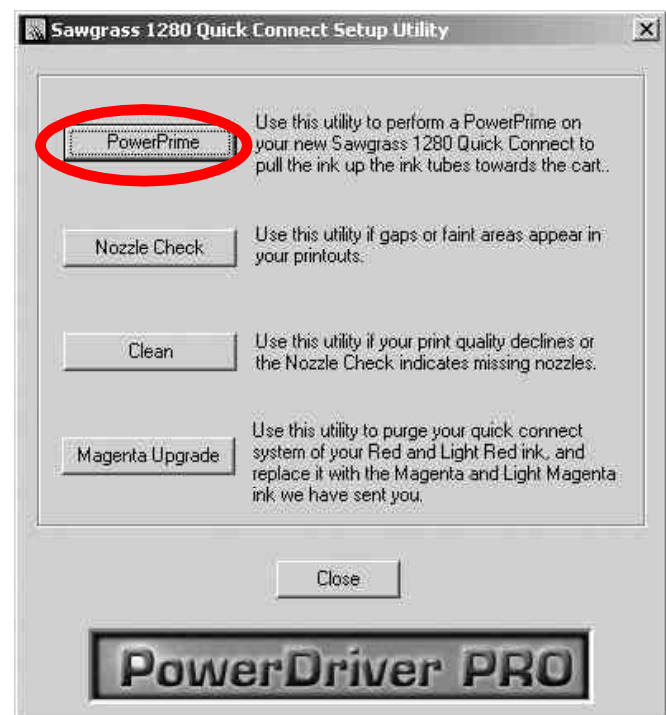

Fig. 4
- v. On the QC Utilities screen, click the **PowerPrime** button; see Fig 4.